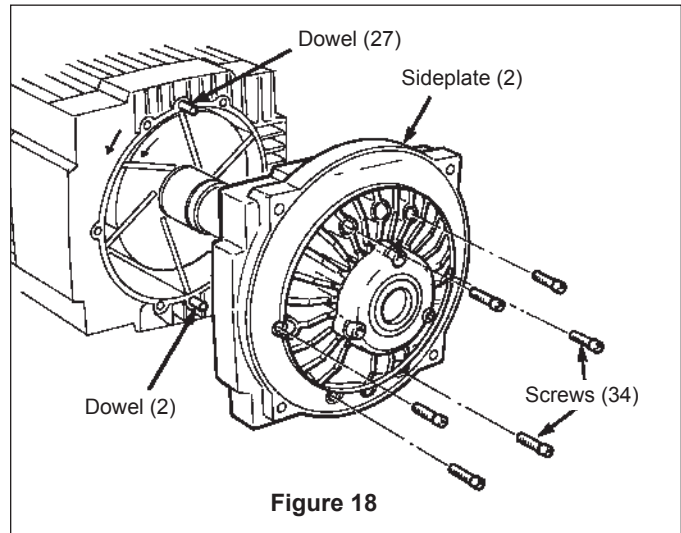

Figure 18
- Remove six screws (34) and draw sideplate (2) off dowels and shaft, complete with bearing cap and bearings. See Figure 18. Support the weight of the shaft to help removal. The sideplate may have to be pried away from the body to achieve this. DO NOT damage the machined faces of the the sideplates.